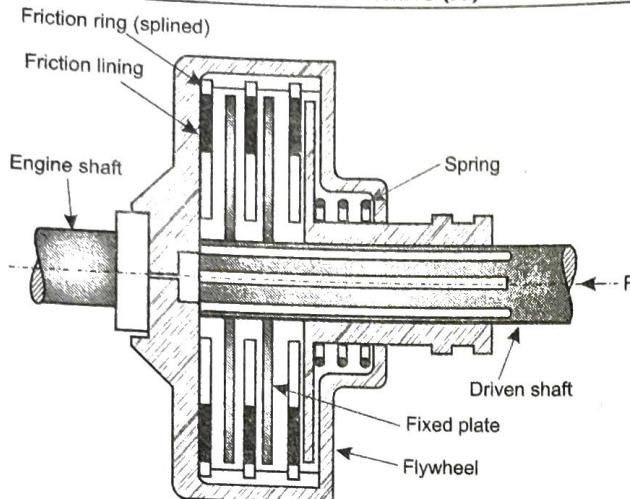

Fig. 4.32 : Multiplate friction clutch
- The arrangement is shown in Fig. 4.32. In this system, the number of plates used are more than two (mostly 4 to 8). The working of this is just similar to single plate clutch except the torque transmitted to the driven shaft is much higher compared with single plate as surface area in multiplate is much higher. Therefore, the power transmitting capacity is much higher than single plate for the same size.